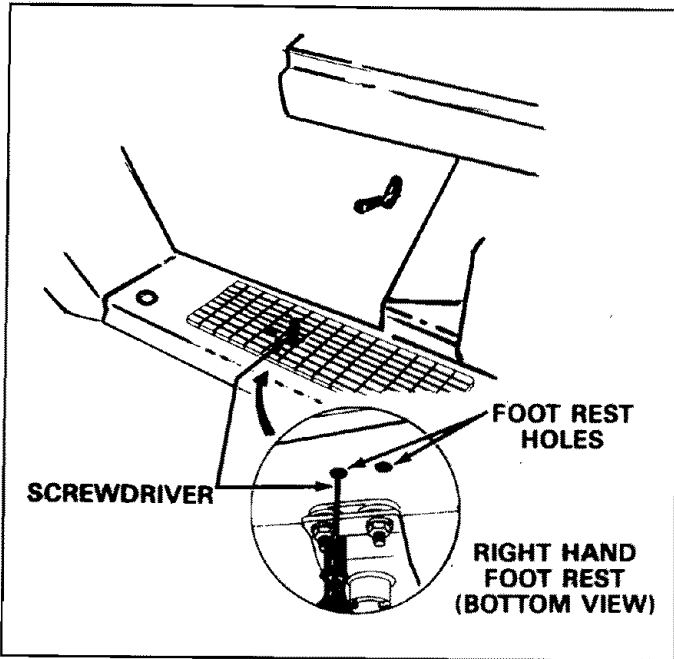

FIGURE 12
15. Locate two holes on underside of right and left hand footrests (see figure 12) (holes drilled in step 13) and push a sharp tool, such as a small screwdriver, up through the footrest holes and the rubber pads on top side of each footrest.